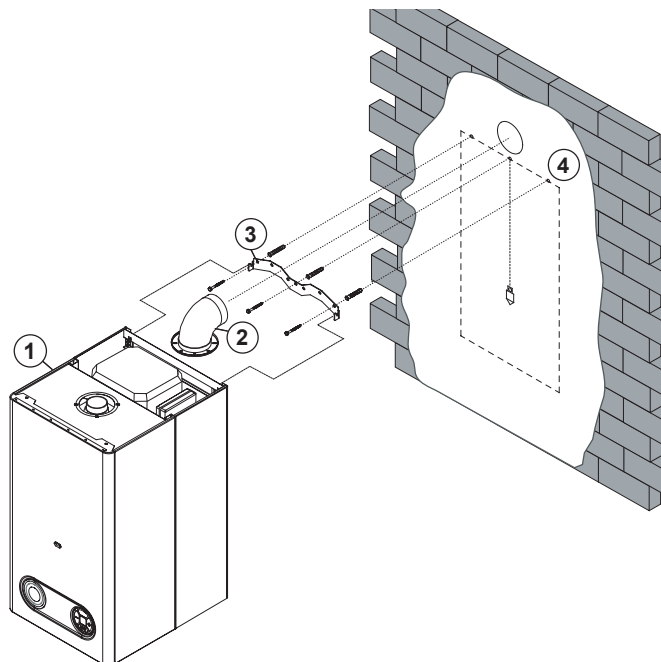

Fig. 12
Mounting procedure (Fig. 12):
1. To fix the boiler mounting bar (part of the boiler delivery) on the supporting wall mark a line along the top edge of the boiler (Fig. 12, pos. 4). Use a level.
2. Place the mounting bar on the marked line (Fig. 12, pos. 3) and mark the holes in the bar onto the wall. Then drill the marked holes to the required diameter. Insert the brackets into the drilled holes, position the bar and secure it using appropriate screws.
3. If the boiler model with forced combustion gas extraction (KTZ) is being mounted, and the flue duct is terminated in a façade wall (Fig. 12, pos. 2), measure the opening for the concentric duct (see the boiler connection dimensions).